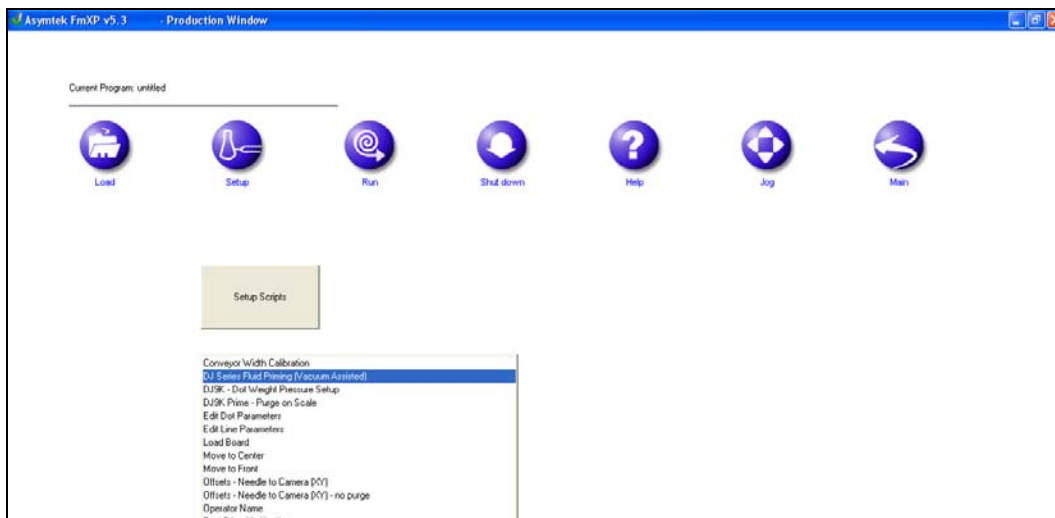

Figure 2-12 Fluidmove Production Window - Setup
- ▶ The Fluidmove Production Window opens (Figure 2-12).